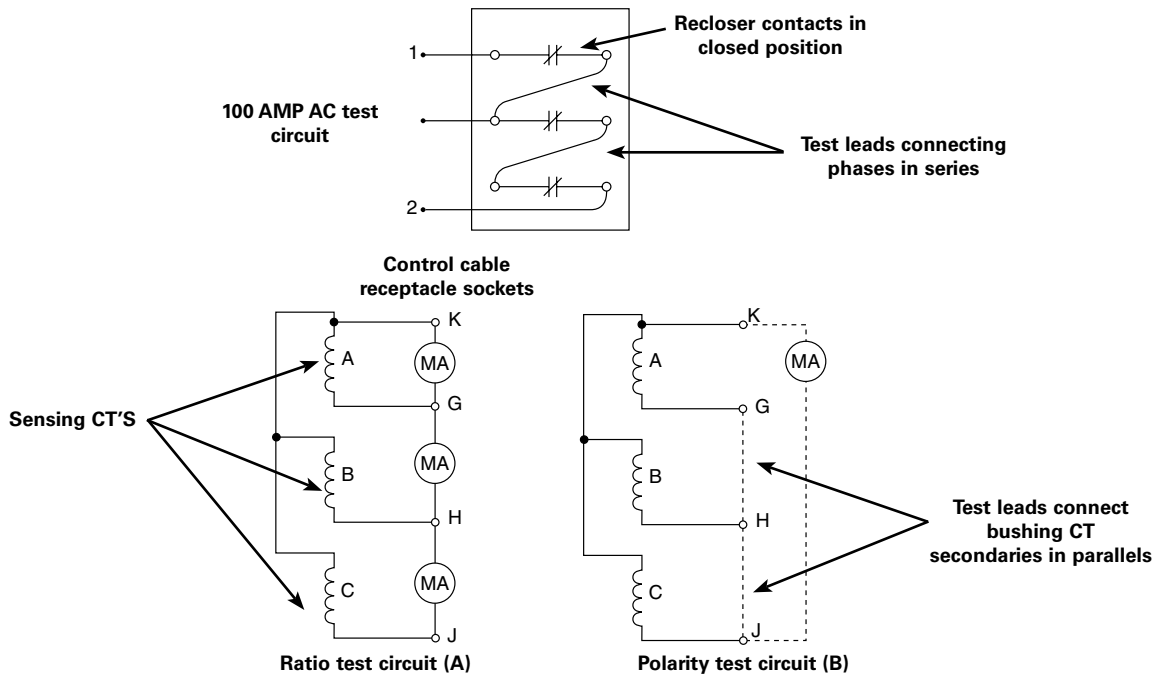

Figure 16. Test circuit for checking bushing current transformers
The sensing transformers can be tested using the circuits shown in Figure 16. Connect all three phases of the recloser in series across a 100 ampere ac test supply and close the recloser with the manual closing crank.
Refer to Figure 16, "Ratio Test Circuit (A)."
Refer to Figure 16, Polarity Test Circuit (B) .